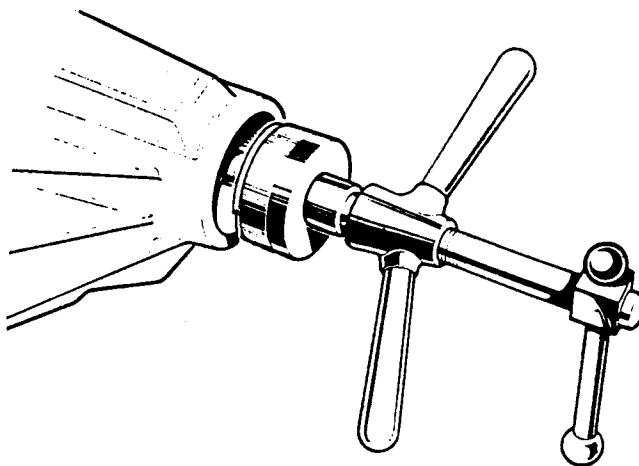

Fig J2.31
- (2) Refer to Fig J2.31. Position the outer bearing replacer 18G1122G detail 2, and the outer bearing cup on the press tool 18G1122.
- (3) Locate the assembly into the pinion housing nose.